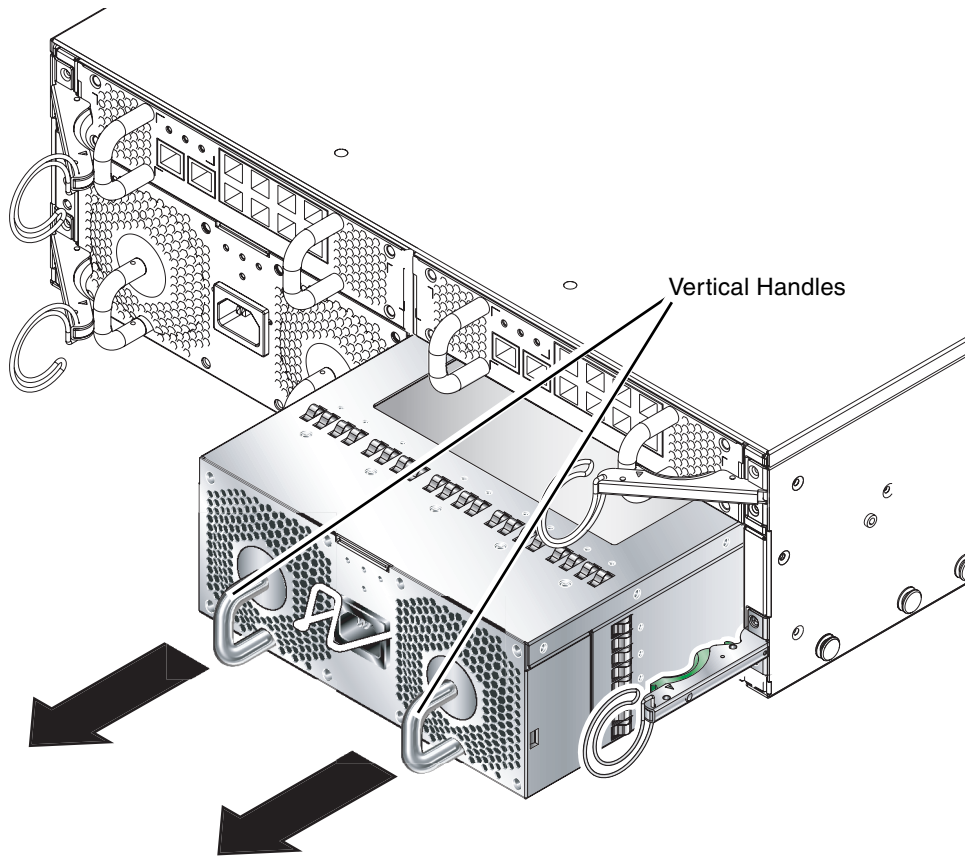

FIGURE 4-9 Removing the PSU From the System Chassis
3. Remove the PSU from the system chassis by pulling on the vertical handles attached to the rear of the PSU (FIGURE 4-9).